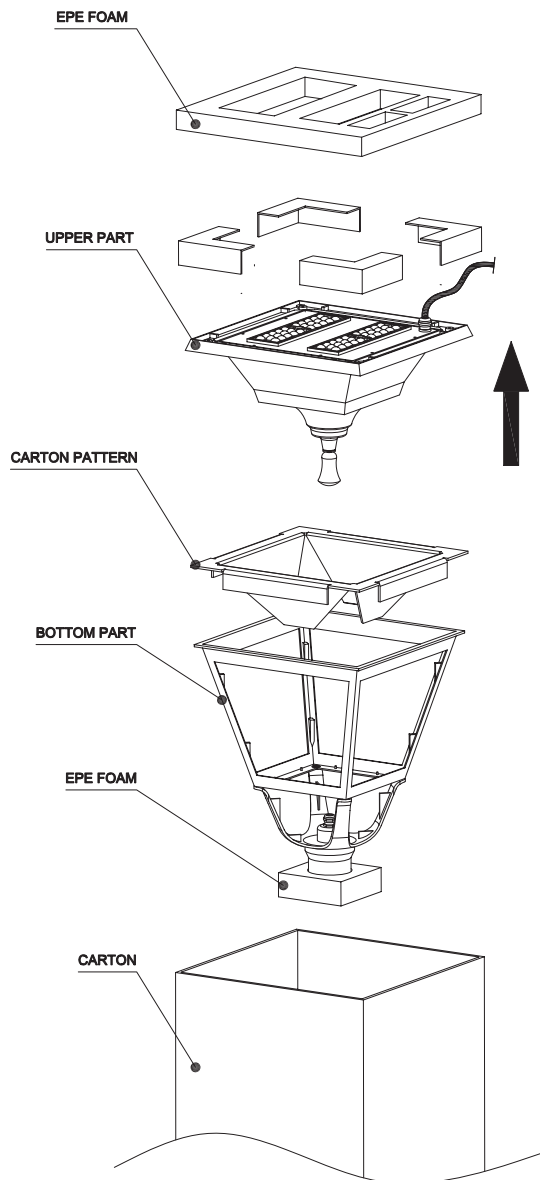

Figure 1
1. Take out the fixture (Upper and Bottom parts) and Accessories from the Carton. See Figure 1.